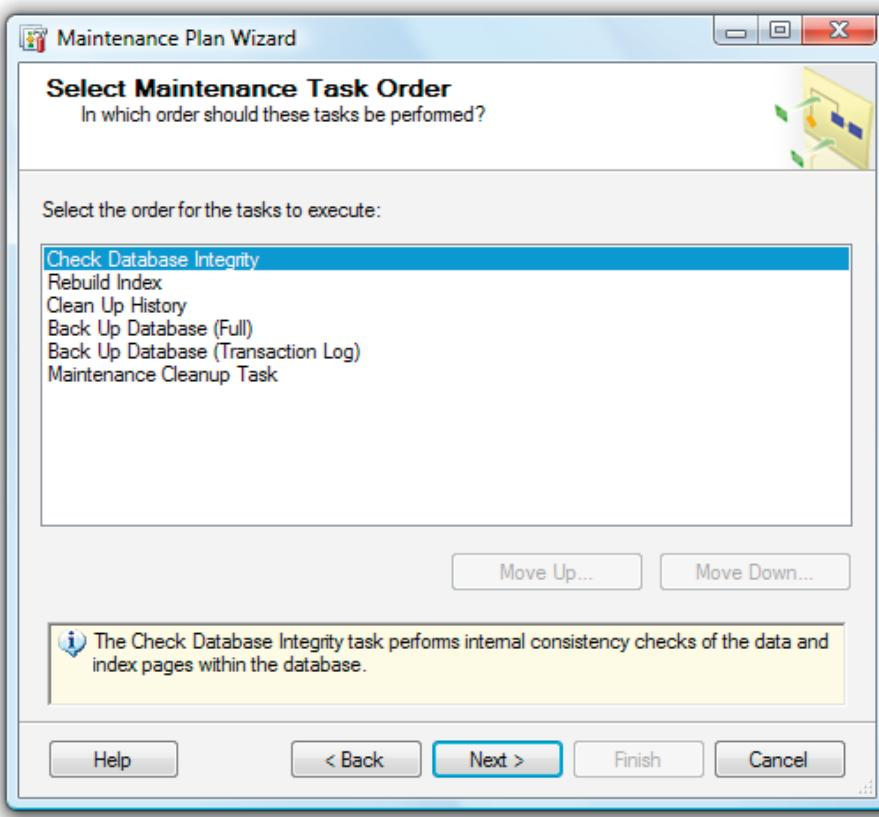

Figure 3.7: You must tell the Maintenance Plan Wizard the order in which you want it to perform its tasks.
Having chosen the maintenance tasks you want to include in your Maintenance Plan, click **Next**, and the **Select Maintenance Task Order** screen appears, as shown in Figure 3.7.
In this screen, you must tell the Wizard the order in which you want the maintenance tasks to execute. Figure 3.7 shows the six tasks we previously selected, in default order. In many cases, the default order will be fine, but you can move them up or down by selecting any one of the tasks, one at a time, and then clicking on either the "Move Up" or the "Move Down" button.
- **Task Scheduling.** If you choose **Separate schedules for each task**, the scheduling of these tasks (covered later) will determine the *actual* order in which they occur. For example, it is possible to schedule the tasks in such a way that the **Backup Database (Transaction Log)** task runs before the first ever **Back Up Database (Full)** task for a given database, although this would cause the Maintenance Plan to fail. The key thing to remember is that the logical task order you select in Figure 3.7 is not absolute, and that it can be overridden by the schedules you set for each one.